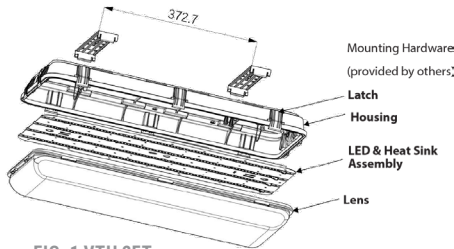
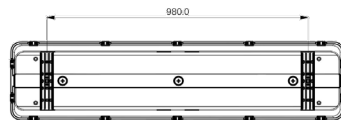

FIG. 1 VTH 2FT
FIG. 2 VTH 4FT
1. Use appropriate mounting hardware (not supplied) to secure the **Snap On Brackets** to mounting surface. Refer to recommended **Snap On Bracket** in **Fig. 1** for VTH 2FT and **Fig 2** for VTH 4FT. **WARNING:** Mount Snap On Brackets symmetrical about the center as shown in Fig. 1 and Fig. 2. Snap On Brackets must be aligned with each other to secure housing.
5. Feed supply wires through one of the Conduit Plugs (5) to make electrical splices. Cord-grips (2) are provided and can be used based on application
3. Snap **Housing** on **Snap On Brackets (2)** as shown in **Fig. 2**, Page 1. Ensure that **Housing** is secure to **Snap On Brackets (2)** onto the grooves on Lens as shown in **Fig. 1**, Page 1.